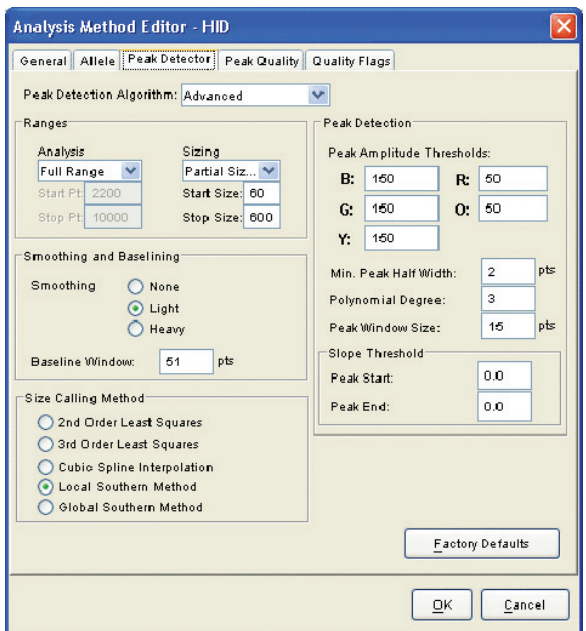

Figure 5. GeneMapper® ID and GeneMapper® Analysis Method Peak Detector tab.
10. Select the Peak Detector tab. We recommend the settings shown in Figure 5.
4. Select "Basic or Advanced" (Figure 5). The type of analysis method selected must match the type of analysis method created earlier. Select "OK".